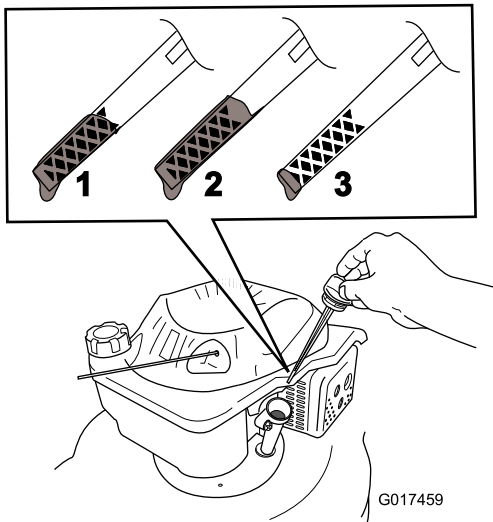

Figure 35
8. Remove the dipstick and read the oil level on the dipstick (Figure 35).